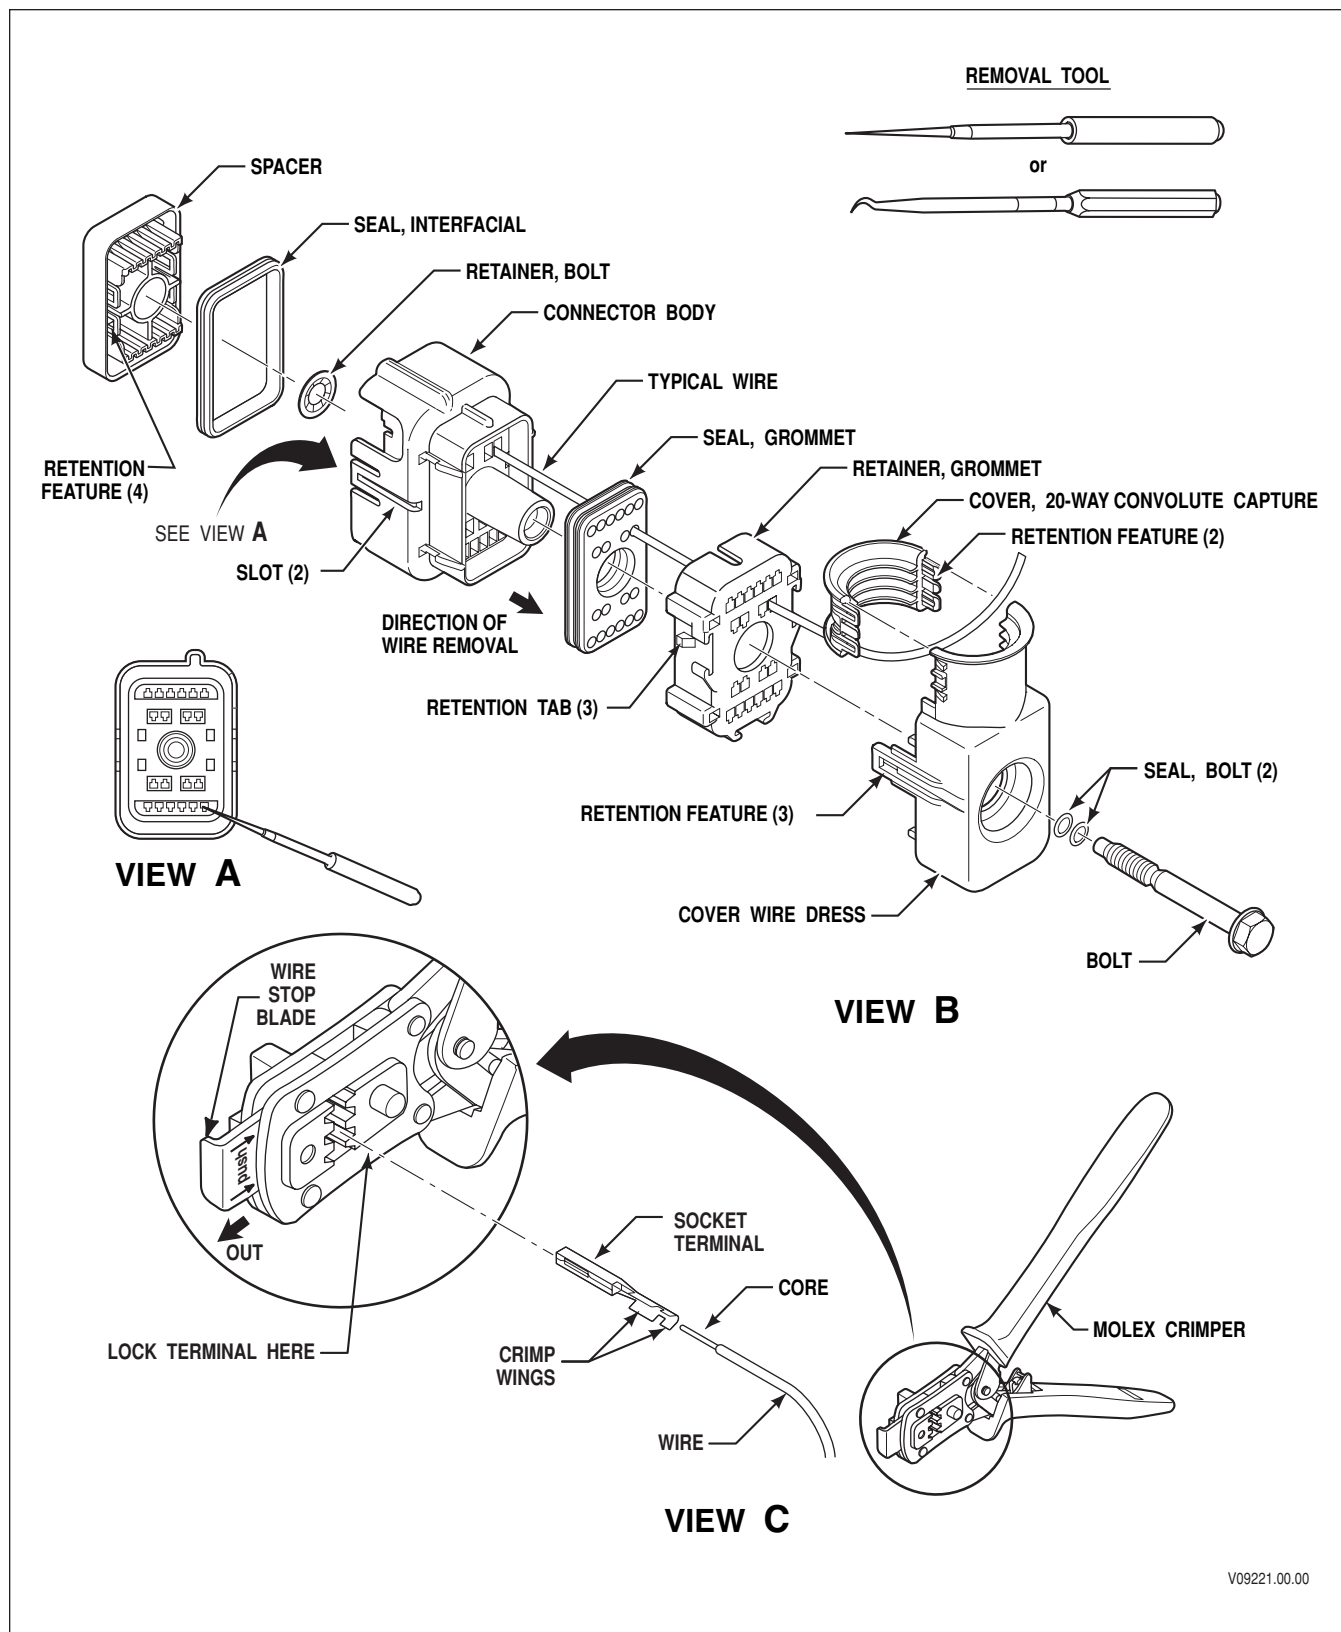

Figure E-3. AFL Automotive 20-Way, Bolt-Assist TCM Connector
1. Loosen the bolt (Figure E-3, View B) that retains 20-way connector to the transmission pass-through connector.
3. Use a small-bladed screwdriver to gently unlatch the retention features (2) of the wire dress cover and remove it from the backshell wire dress. Gently release the retention features (3) of the backshell wire dress and remove it from the connector body.
7. Insert the metal blade of J 38125-12A or J 39227 remover tool into the small hole in the front of the connector body above or below the desired terminal/wire lead cavity location (See Figures E-3, View A).
2. Refer to Figures E-3, View C. Pull out the wire stop blade of the crimping tool so it is clear of the terminal crimp area. Place the terminal all the way into the appropriate wire size opening of the J 47139 crimping tool until it contacts the stop and is properly oriented. Squeeze the handle enough to keep the terminal in place in the tool but not enough to compress the crimp wings.
9. Refer to Figures E-3, View A. Align the three retention features of the backshell wire dress with the three lock tabs on the grommet retainer and press the backshell wire dress onto the grommet retainer until all three retention features lock. Align the wire dress cover with the backshell wire dress and press into place until it locks on both sides.